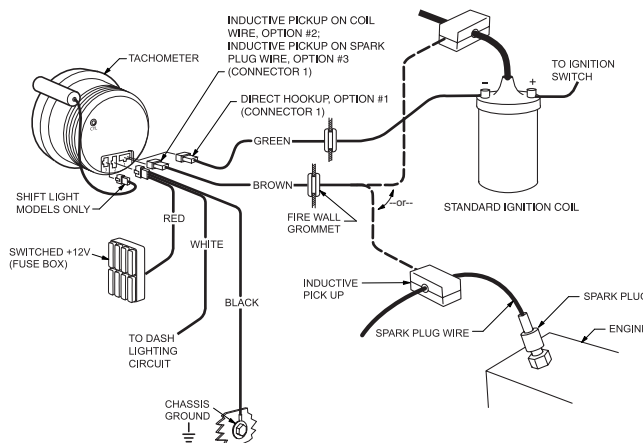

Figure 3
Power and Ground Connections (Figure 3)
1. Connect the GREEN wire to the **negative side** of the ignition coil, or to a suitable tachometer **signal port** as follows (see Figure 3):
1. Connect the Inductive Pick-Up to the Ignition Coil Wire as follows (see Figure 3):
1. Connect the Inductive Pick-Up to a spark plug wire as follows (see Figure 3):